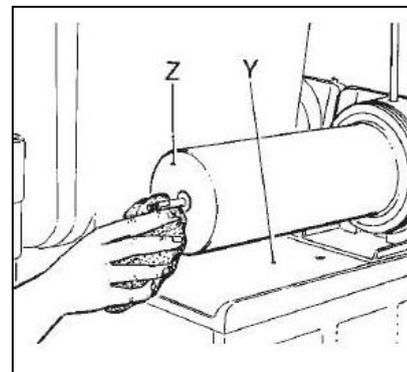

Fig. 15
- Thoroughly wash the evaporator and the drip tray surfaces with a sponge soaked with the sanitizer (see fig.15).